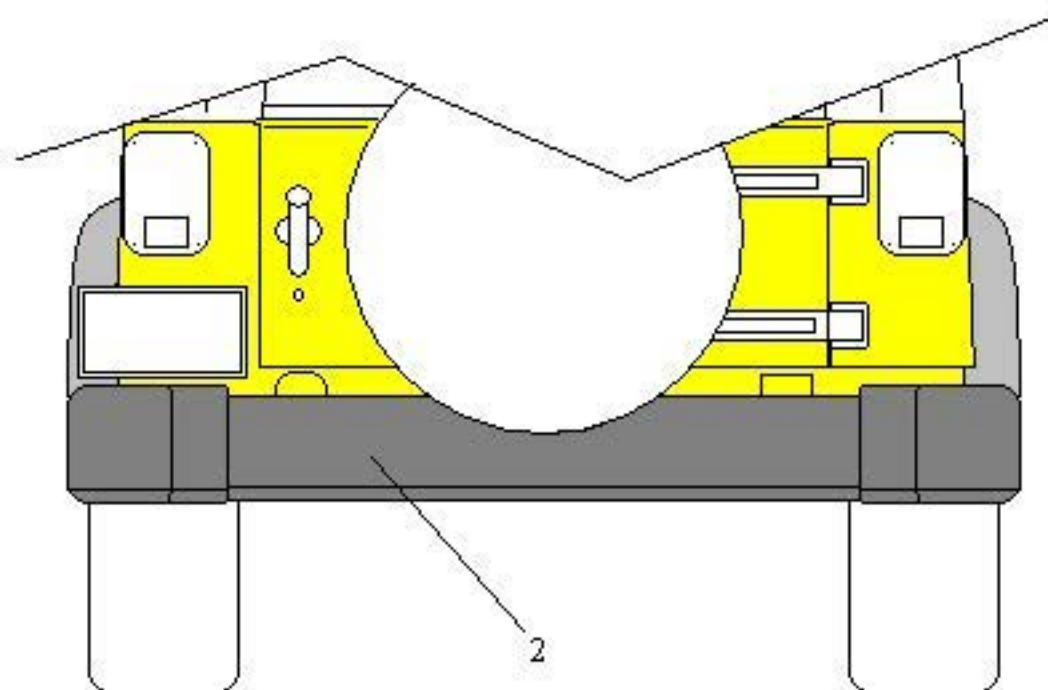
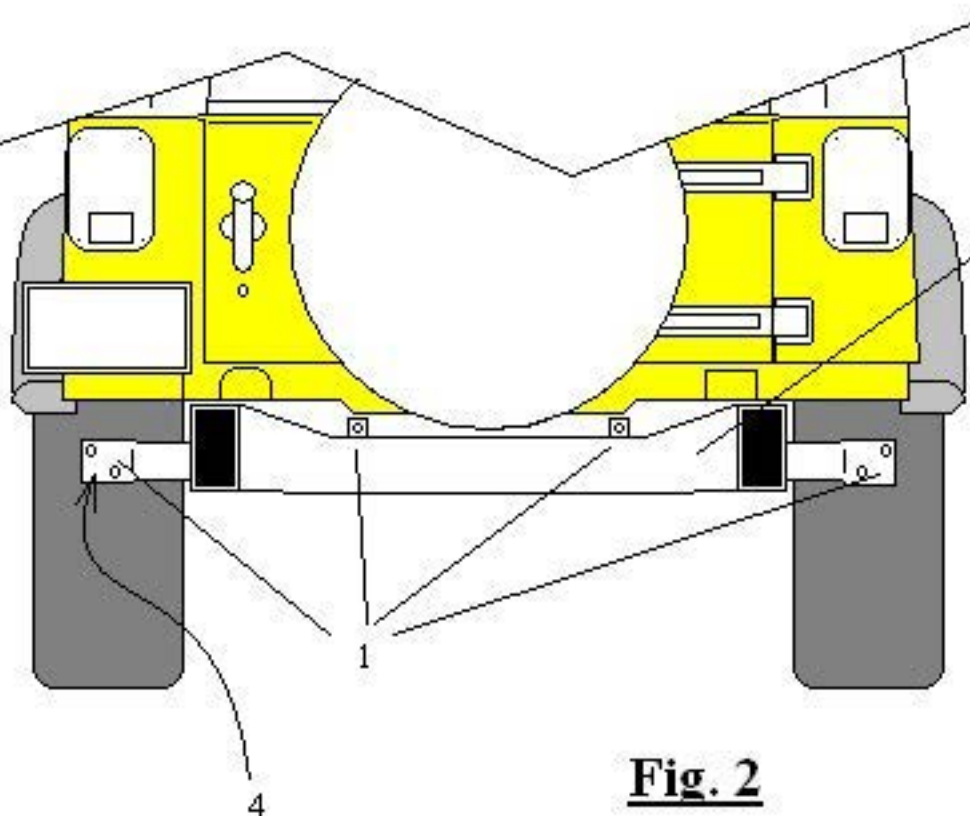

Fig. 1
Fig. 2
- 3- Refer to page 3 Fig. 1 and Fig. 2 use a 16mm socket and remove all 6 bolts (1) holding the rear bumper (2) to the jeep frame (3). Do not remove the bumper support brackets (4) from the vehicle frame (3) at this time. Note: *The rear door of your jeep may need to be opened during the removal and re-attachment of your bumper depending on the rear tire cover or size of tire.*